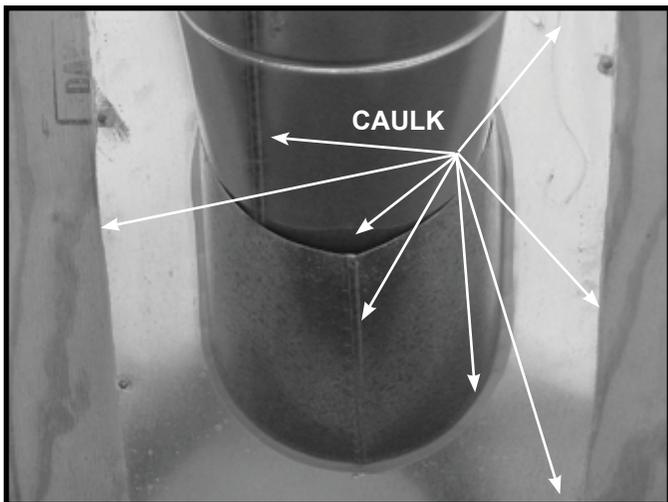

Figure 10.10
- Slide the roof flashing over the pipe sections extending through the roof as shown in Figure 10.10.
- Caulk the perimeter of the flashing where it contacts the roof surface. See Figure 10.10.